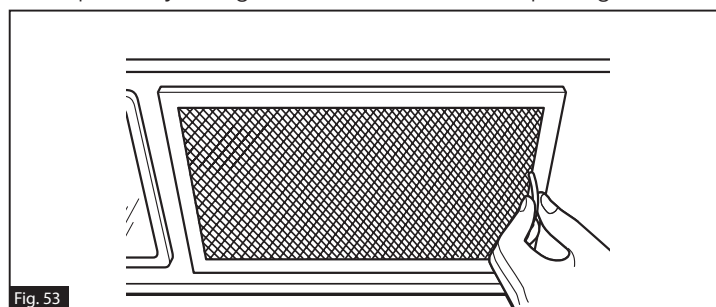

Fig. 53
5. Install the grease filters. (Fig. 53)